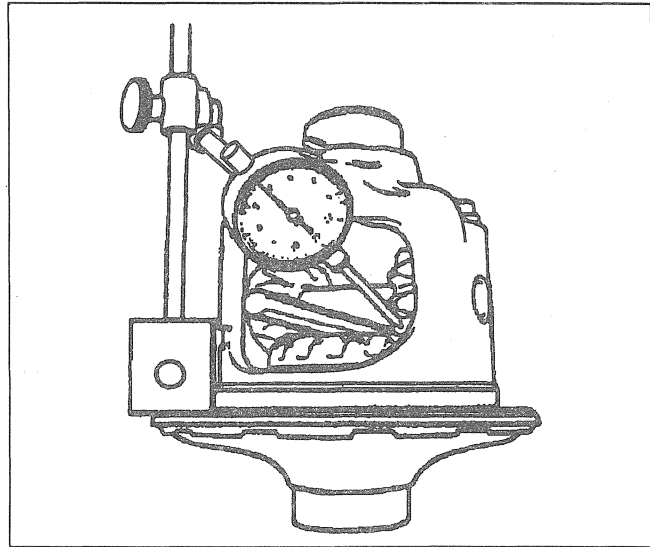

Figure 5—Checking Cam Gear Backlash
1. Install the cam unit and side thrust washer (13) to the flange end of the case.
2. Place the pinion gears (7) and side gear thrust washers into the differential.
3. Press down the side gear, and install the pinion shaft (18) and lock screw (3).
6. Mount a dial indicator to the ring gear flange and place the stem of the indicator on one of the teeth on the pinion gear closest to the lock screw (Figure 5).
2. Assemble the guide clips (19) to the plates.
3. Install the side gear thrust washer (8), clutch plate assembly (9), and right side gear to the differential.
4. Place the pinion gears (7) and thrust washers (6) into the differential.
5. Press down on the side gear, and install the pinion shaft (18) and lock screw (3).
8. Mount a dial indicator to the ring gear flange, and place the stem of the indicator on one of the teeth on the pinion gear closest to the lock screw (Figure 5).